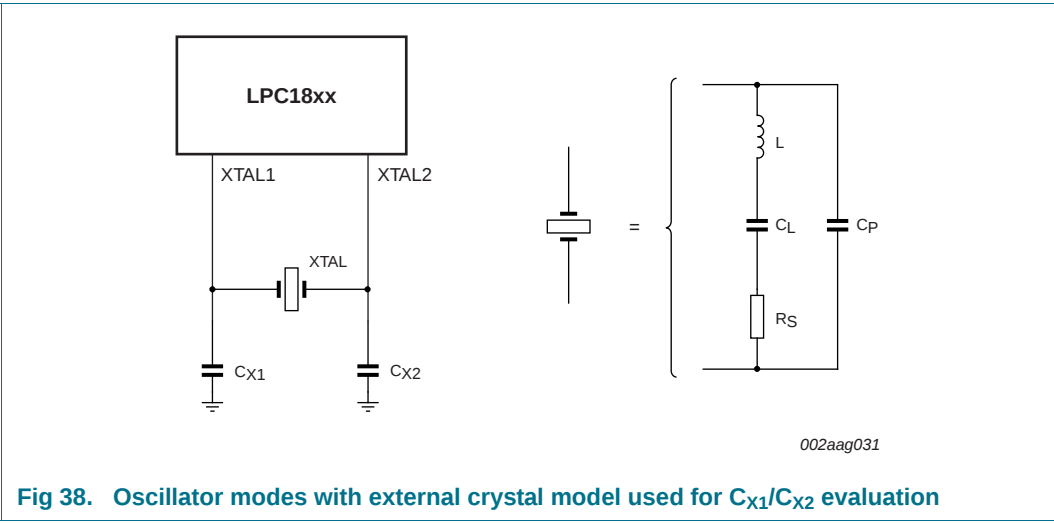

Fig 38. Oscillator modes with external crystal model used for C_{X1}/C_{X2} evaluation
- External components and models used in oscillation mode are shown in Figure 38, and in Table 30 and Table 31. Since the feedback resistance is integrated on chip, only a crystal and the capacitances C_{X1} and C_{X2} need to be connected externally in case of fundamental mode oscillation (the fundamental frequency is represented by L , C_L and R_s). Capacitance C_P in Figure 38 represents the parallel package capacitance and should not be larger than 7 pF. Parameters F_C , C_L , R_s and C_P are supplied by the crystal manufacturer.